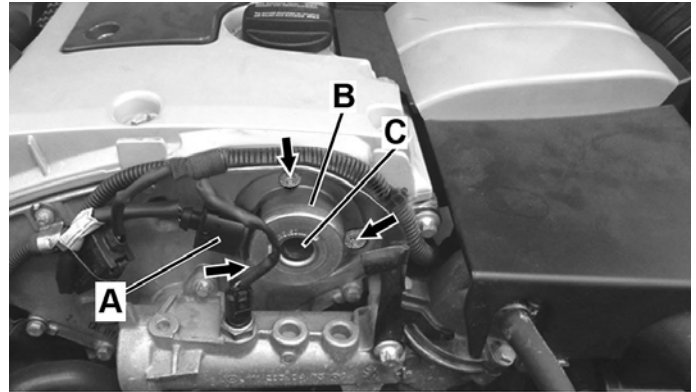

Figure 5
1. Disconnect engine harness connector (A, Figure 5) from camshaft solenoid (B).
2. Remove 3 bolts (arrows, Figure 5) securing camshaft solenoid (B) to engine then remove camshaft solenoid (B).
3. Install new stop plug (C, Figure 5) into new camshaft solenoid (B).
4. Apply sealing material to new camshaft solenoid (B, Figure 5) then install new camshaft solenoid (B) in reverse order (tighten bolts [arrows, Figure 5] to 8 Nm).